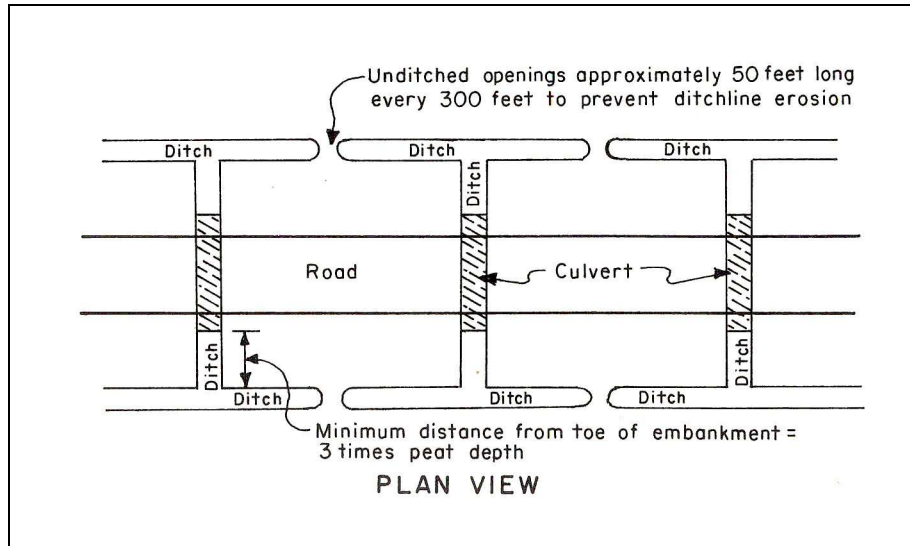

Figure 24. Illustration of Use and Placement of Culverts and Ditches for Wetland Roads.
- Shallow ditches parallel to the road centerline should be constructed along the toe of the fill to collect surface and subsurface water flows, carrying flows through the culvert(s) to the other side of the road and into a vegetated area (see Figure 24). Any ditches must be of depth and width only to allow cross drainage and support the stability of the road. **Deeper or excessive ditching will require a permit from the DEQ.**